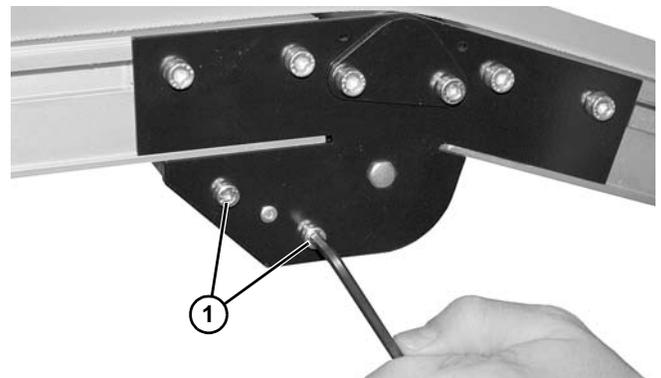

Figure 85
3. Install screws (**Figure 85, item 1**) on both sides of conveyor.